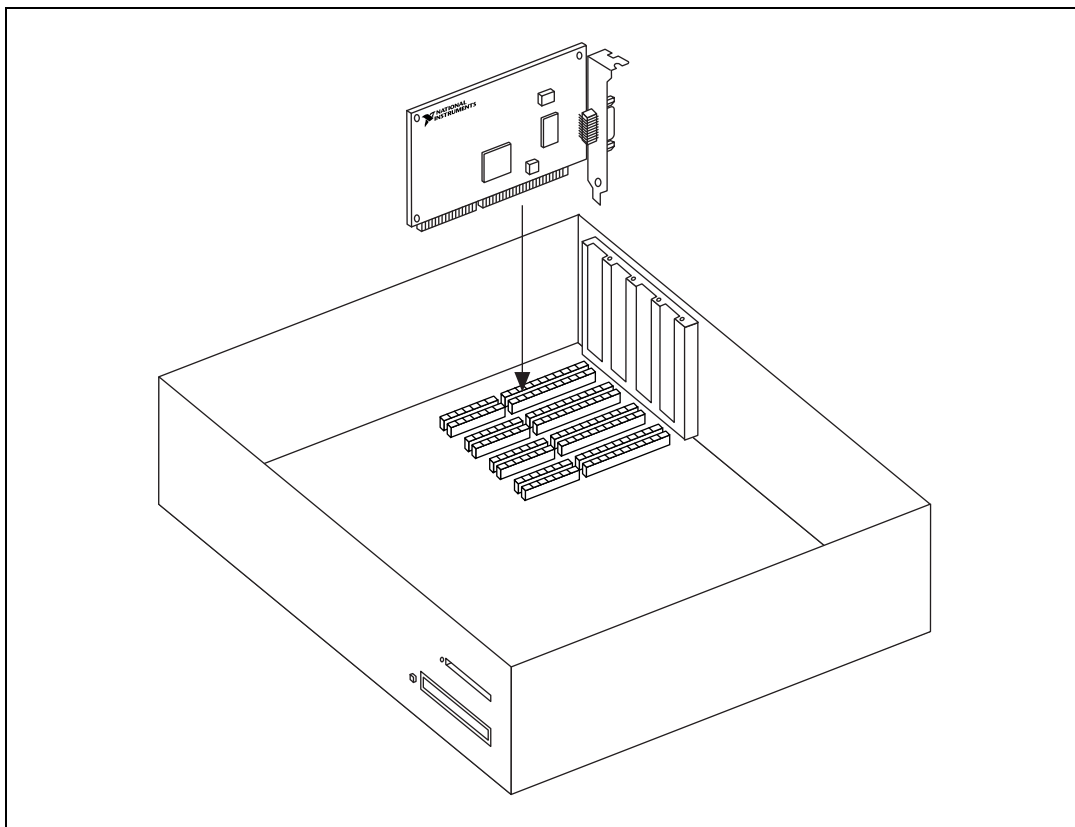

Figure 2-5. Installing the AT-FBUS Board
4. As shown in Figure 2-5, insert the AT-FBUS board into any unused 16-bit ISA slot with the Fieldbus connector sticking out of the opening on the back panel. Make sure all pins are equally far into the connector. Although it might be a tight fit, do *not* force the board into place.